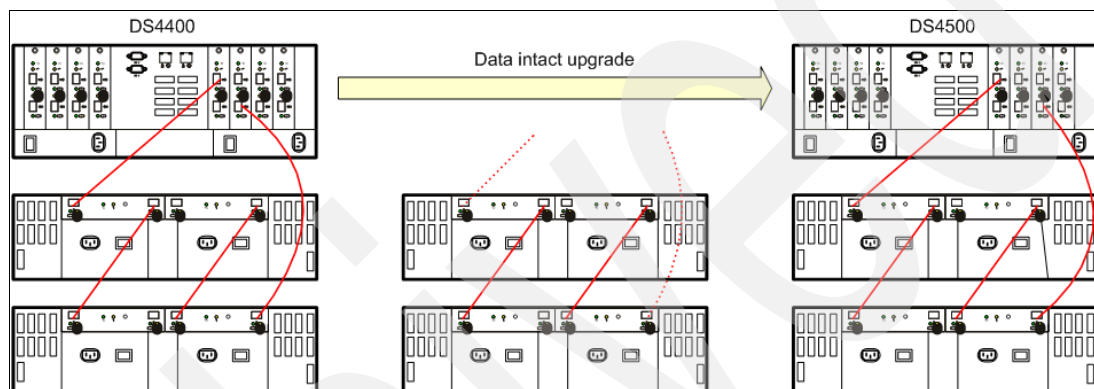
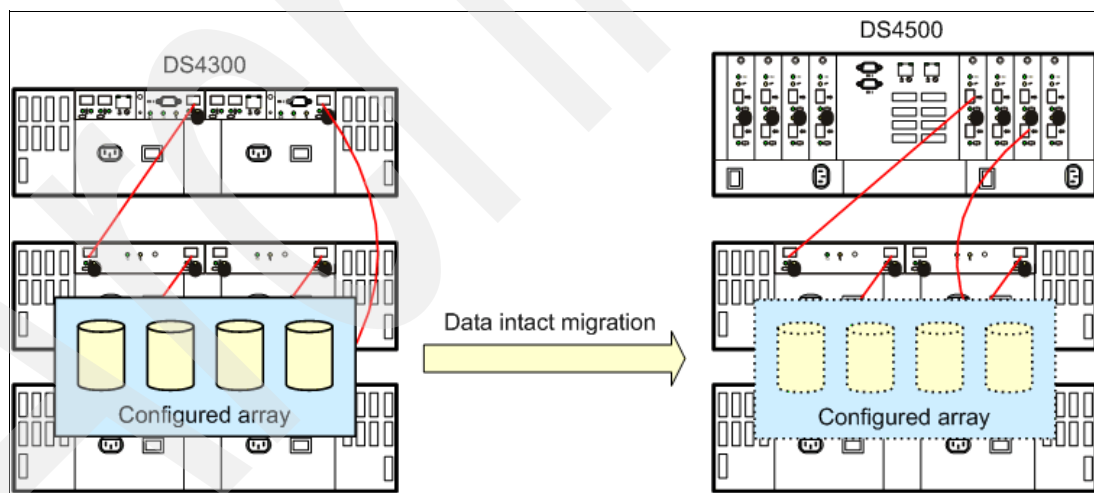

Figure 3-53 Upgrading DS4000 controllers
Figure 3-54 Relocating arrays
- ▶ Data intact upgrades and migrations: All DS4000 subsystem recognize configuration and data from other DS4000 subsystems so that migrations can be for the entire disk subsystem as shown in Figure 3-53, or for array-group physical relocation as illustrated in Figure 3-54.